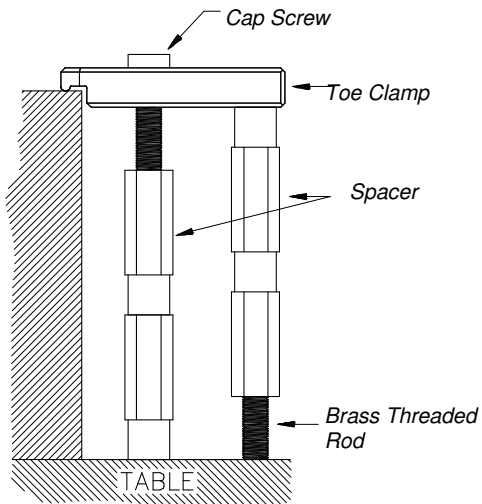

Figure 3
STEP 7. For work pieces from 4.0 inches to 6.0 inches thick, an additional spacer is attached to both spacers as the one shown in Fig. 3.